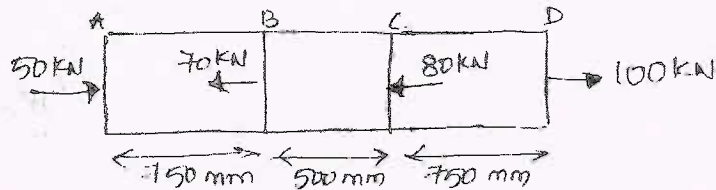

Fig. Q1 (c)
- c. A circular bar of uniform cross sectional area of  $1000 \text{ mm}^2$  is subjected to forces as shown in Fig. Q1 (c). If Young's modulus for the material is 200 GPa, determine the total deformation. (08 Marks)